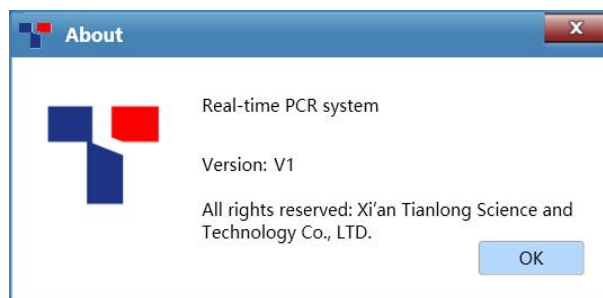

Figure D-3.10. Help Submenu - About Interface
3. **About:** display the application software version and copyright information, as shown in figure D-3.10.